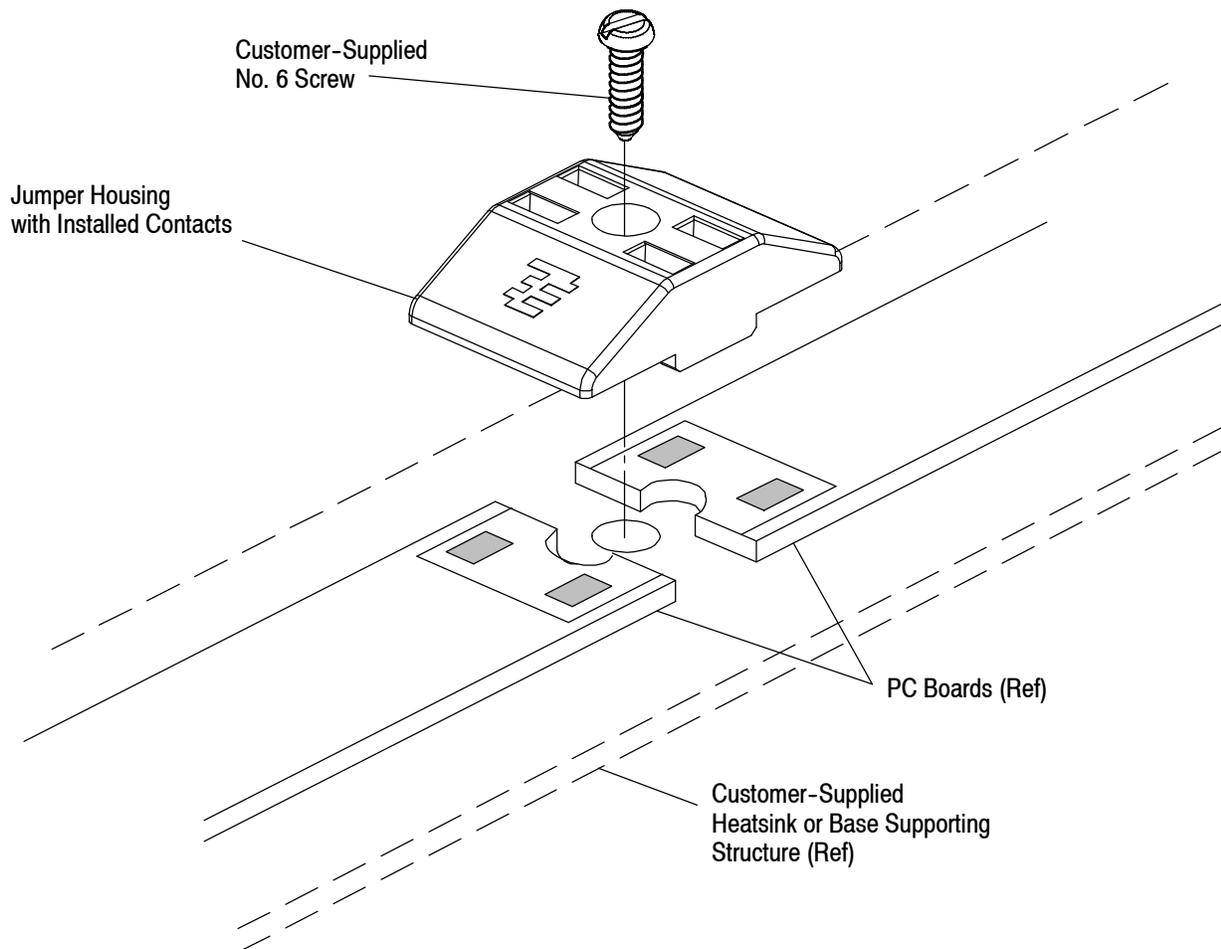

Figure 3
3.5. Placement (Figure 3)
Insert the No. 6 screw and tighten to a **torque of 0.11-0.22 Nm [1-2 lbf-in.]** to the customer designated heatsink or base supporting structure. See Figure 3.